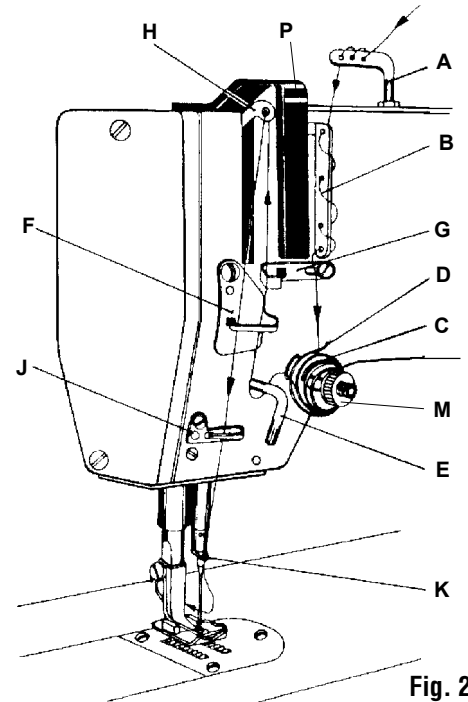
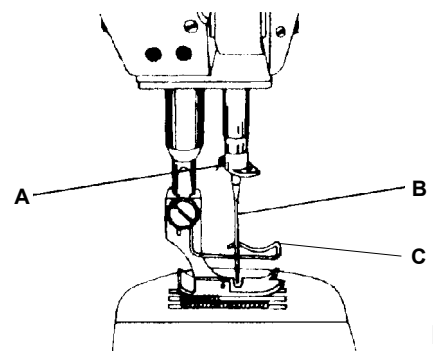
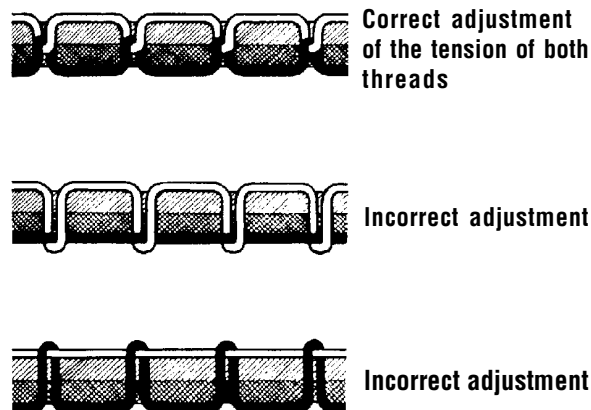

Fig. 2
Fig. 4
Fig. 5
Do not use this sewing machine without using the finger guard (C, Fig. 4) and without the take-up lever guard (P, Fig. 2).
6.3 Needle insertion (Fig. 4)
The tension of the upper and that of the bottom thread must be mutually adjusted in such a way, so that the stitch locking is being done in the middle of the sewn material (Fig. 5). The tension of the upper thread is to be adjusted by turning a bit the nut of the tensioner (M, Fig. 2). In turning the nut to the right (in the clockwise direction), we increase the tension of the upper thread, in turning it in the opposite direction, we reduce the tension of the thread.